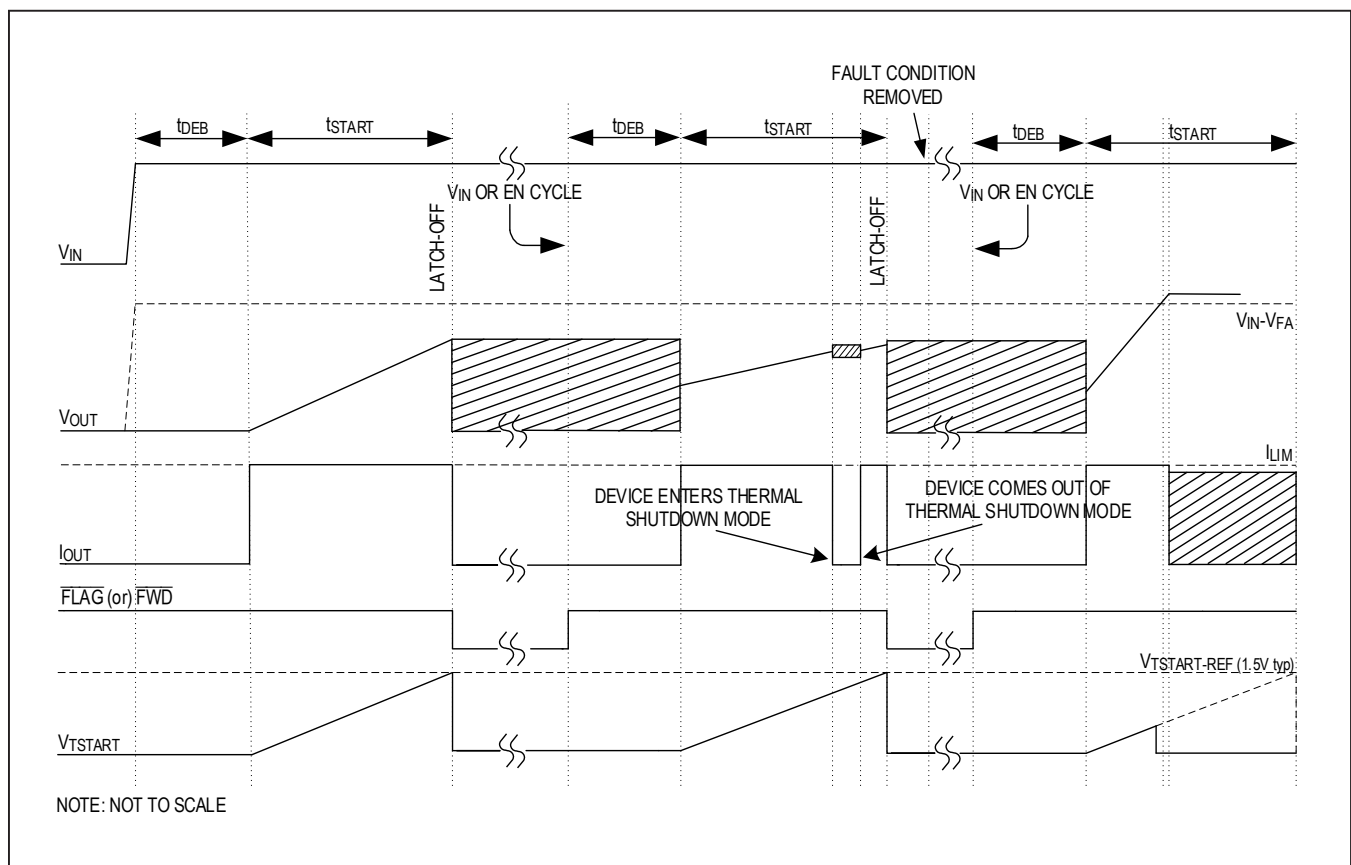

Figure 8. Startup Fault Timing Diagram in Latchoff Current-Limit Mode
In latchoff current-limit mode during startup, the device operates in continuous current-limit mode until t_{TSTART} . The timer t_{TSTART} resets if the output voltage V_{OUT} reaches $(V_{IN} - V_{FA})$ within t_{TSTART} and then the normal operation continues. If the overcurrent condition is present for longer than startup blanking time (t_{TSTART}), the output NFET Q2 is turned off and latched, the timer t_{TSTART} resets, and the $\overline{FLAG}$ (or $\overline{FWD}$) pin asserts. To reset the device, either toggle the enable control signal (EN) or cycle the input voltage. Figure 8 depicts a typical startup behavior in latchoff current-limit mode.